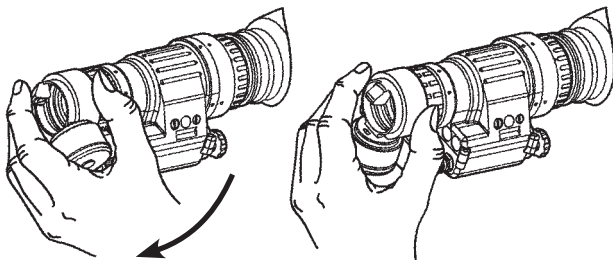

FIGURE 2.17. COMPASS INSTALLATION
(4) Press the compass onto the objective lens at an angle using your left hand. Slowly turn the compass counterclockwise until it is in the vertical position (with compass illumination button pointing down). See Figure 2.17.
(5) Ensure that the compass fits tightly to the objective lens.
(6) Refer to paragraph 2.4.6. for operation of the compass.